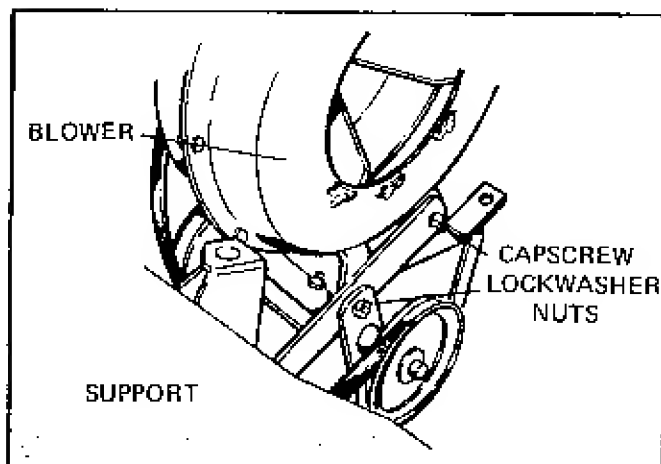

FIGURE 1
1. The blower unit comes fully assembled. Attach support to tractor with two pins and spring clips (Figure 1).